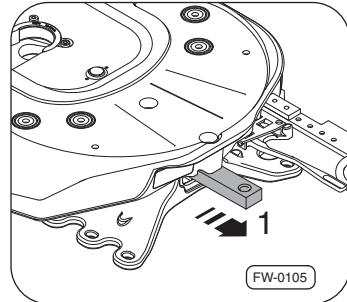

Fig. 25 · Pull the clamps out.
3. Pull sideways on both sides of the clamp Fig. 25, –arrow 1–. The rubber damper remains in the bracket (bearing block).